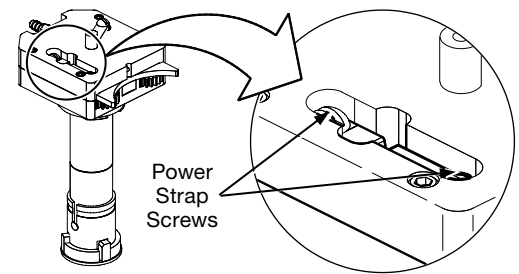

Figure 32 Inspecting the Power Strap Screws
11. Verify that the two power strap screws are tight. See Figure 32.